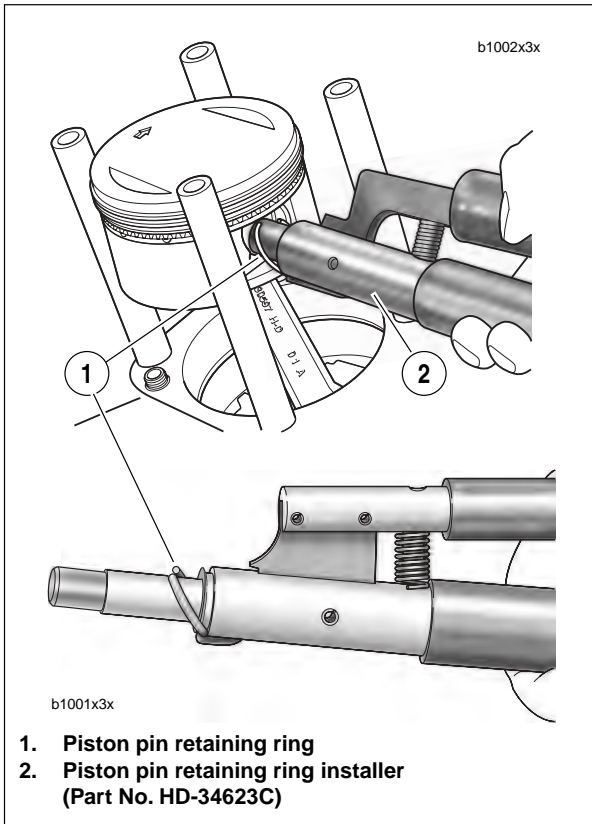

Figure 3-86. Removing Piston Pin Circlip
8. See Figure 3-86. Remove the piston pin circlip as follows: